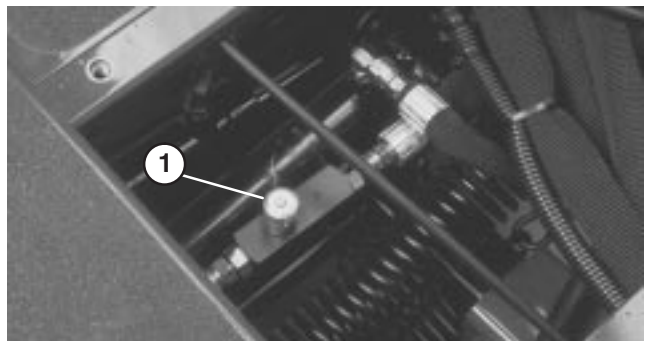

Figure 61
(Fig. 61 – 63)
1. Locate valve behind access panel above operator's platform (Fig. 61).